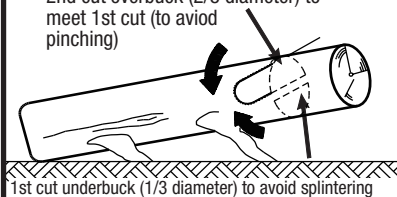

fig. 23
- When the log is supported on both ends, cut 1/3 of that diameter from the top overbuck. Then make the finished cut by underbucking the lower 2/3 to meet the first cut (**fig. 23**).